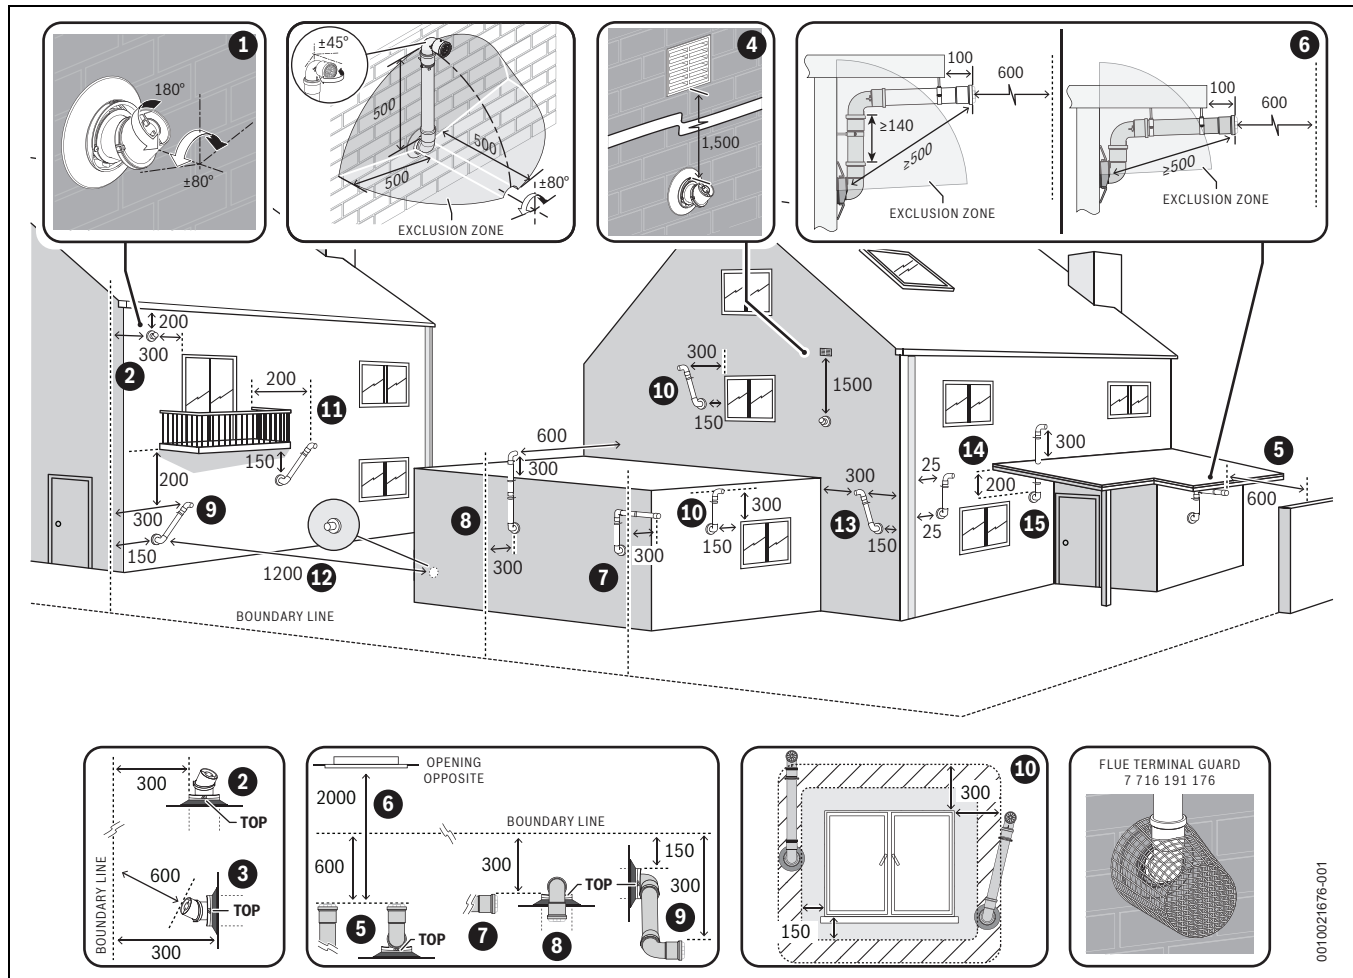

Fig. 30 Plume re-direct and plume management terminal positions
- ▶ Refer to “Horizontal flue terminal positions” for all concentric flue terminal positions unless the flue position is specified in figure 30 “Plume re-direct and plume management terminal positions”.
Key to figure 30